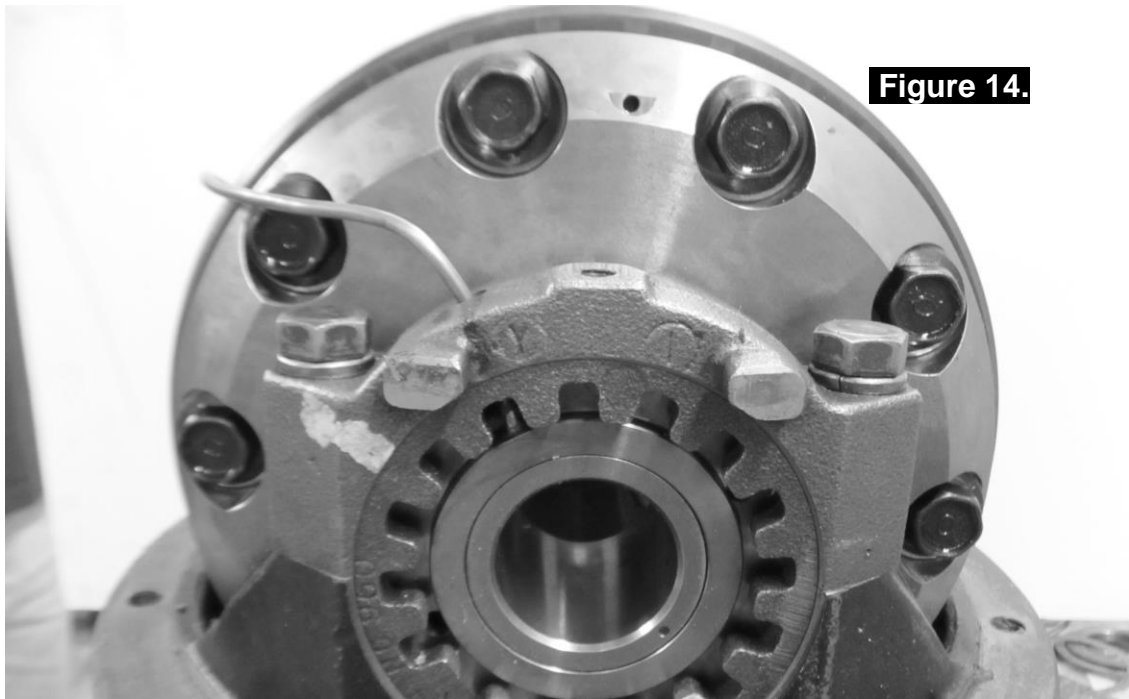

Figure 14.
- With the seal housing tube now firmly secured into the bulkhead fitting, bend the tube so that it closely follows the profile shown in Fig.14. and 15.